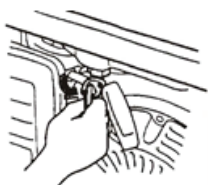

Figure 23
- 2.4 Set the fuel switch to ON position (Figure 23)